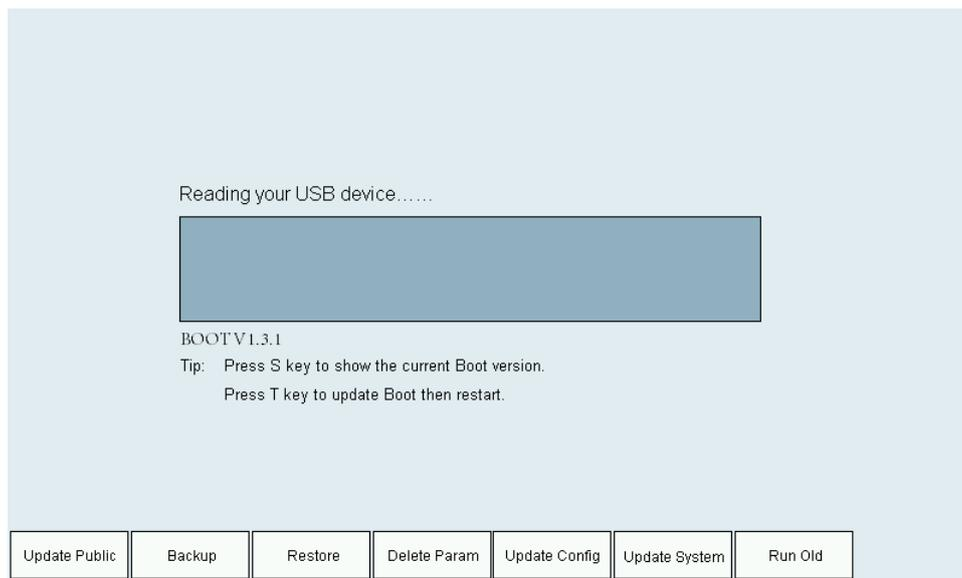

Fig. 4-1 System Update Interface
- 2) Power on and start NK200, while pressing key G several times to enter the system update interface. See Fig. 4-1, USB being recognized.